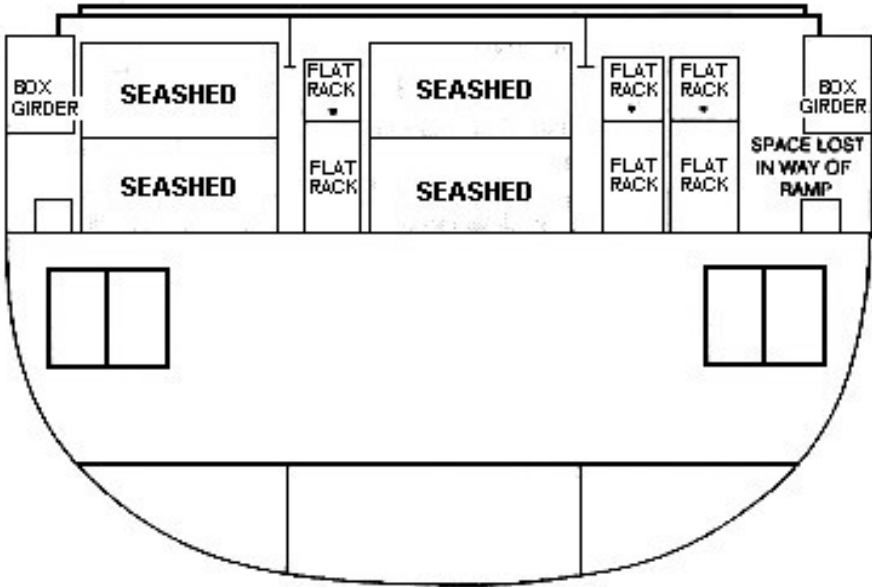

Figure 3-51
3. Lower the work-through floor (see Figure 3-51).